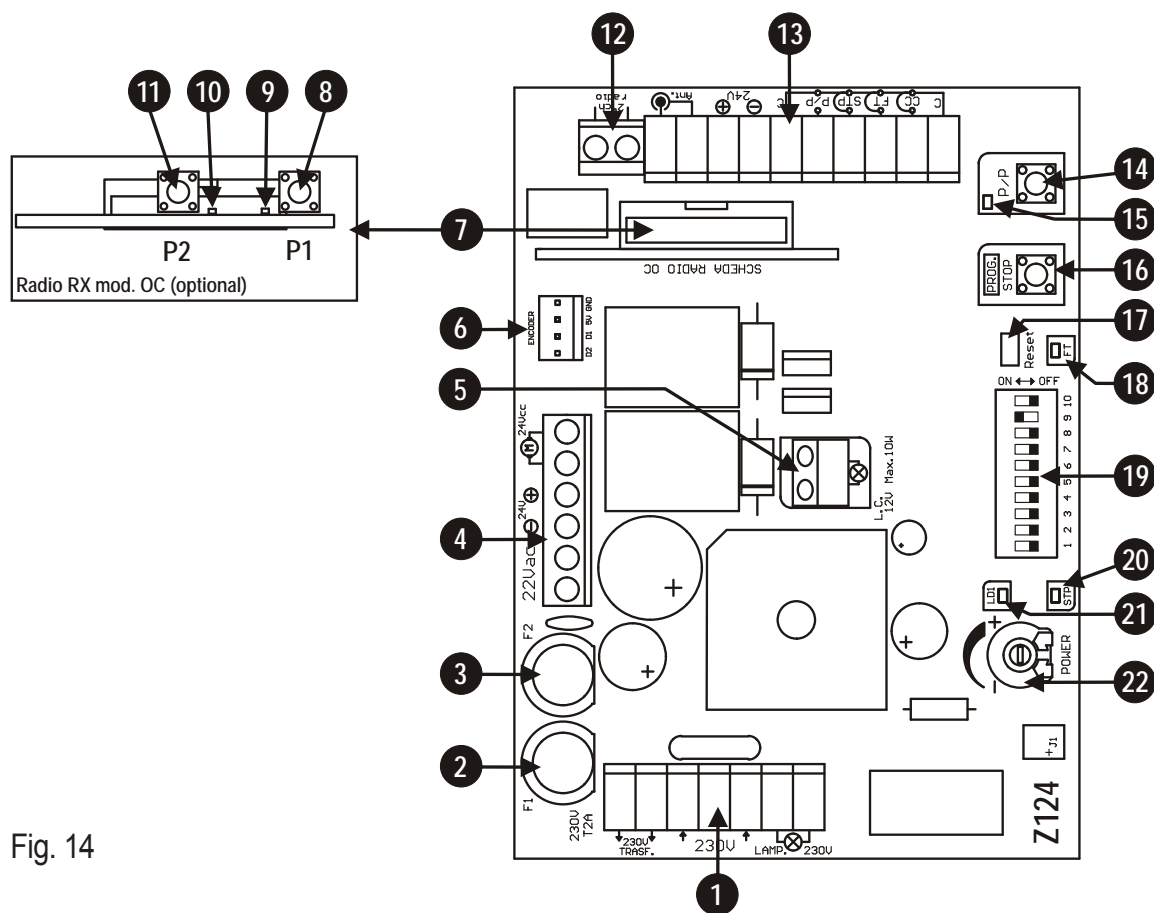
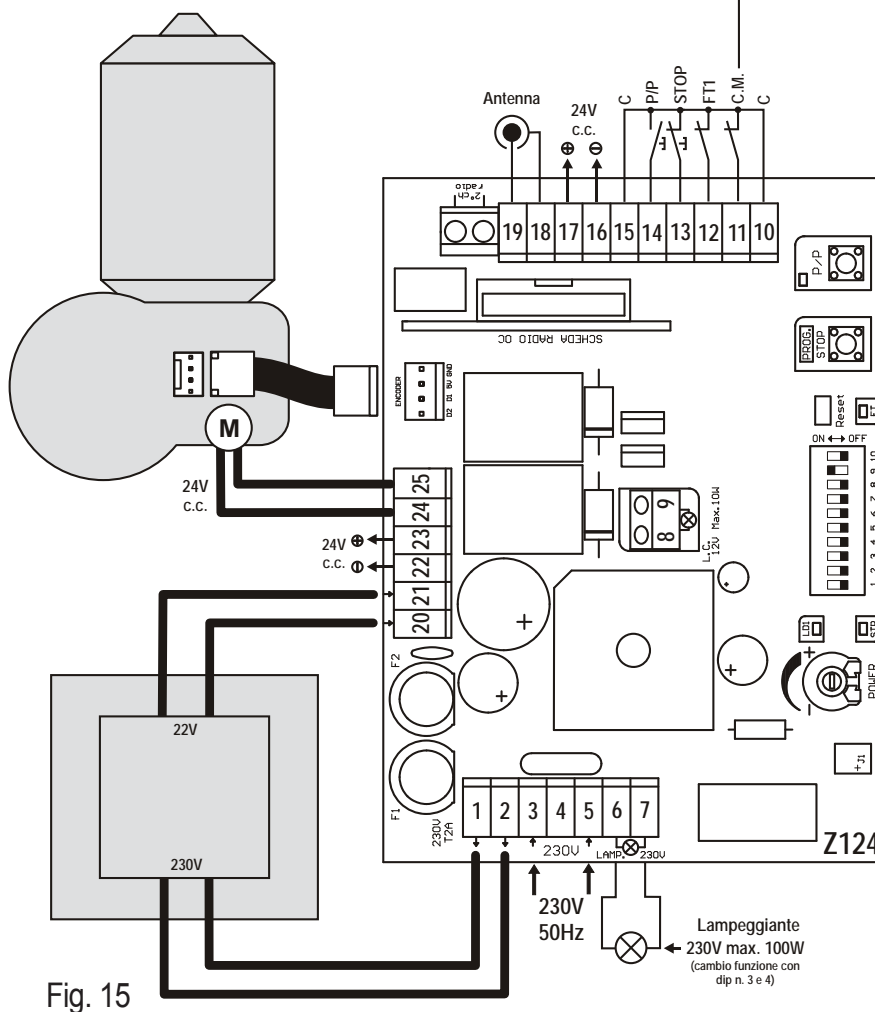

Fig. 14
Fig. 15
GB PART DESCRIPTION (fig. 14)
For connections, refer to tables 1 and 2 and figure 15.
- 1) Keep the PROG key pressed. Use a screwdriver to short the jump Reset (detail 17 of fig. 14).
- 9) To return to normal operating mode, reset the control unit (short the connector, detail 17 of fig.14)
During the self-learning phase, the key S/S is pressed repeatedly (detail 14 of fig 14), alternatively the control S/S control can be used (terminal 14, fig. 15) or the radio transmitter memorised on the first channel of the receiver.